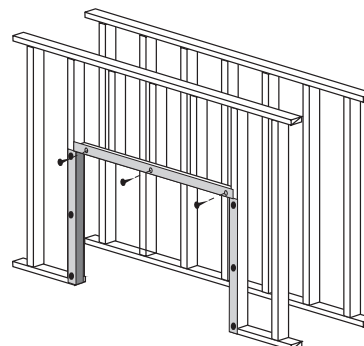

Figure 8b. Combustible Framing Heat Shield, completed.
**Step 3.** Nail or screw the top shield in place flush with framing, as shown in figure 8b.